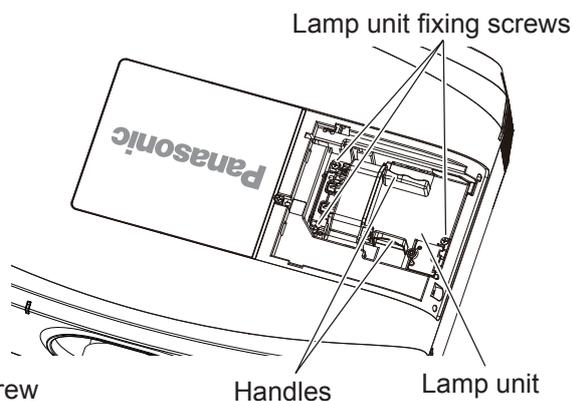

Fig. 2
- 3) Remove the lamp unit. (Fig. 2)**